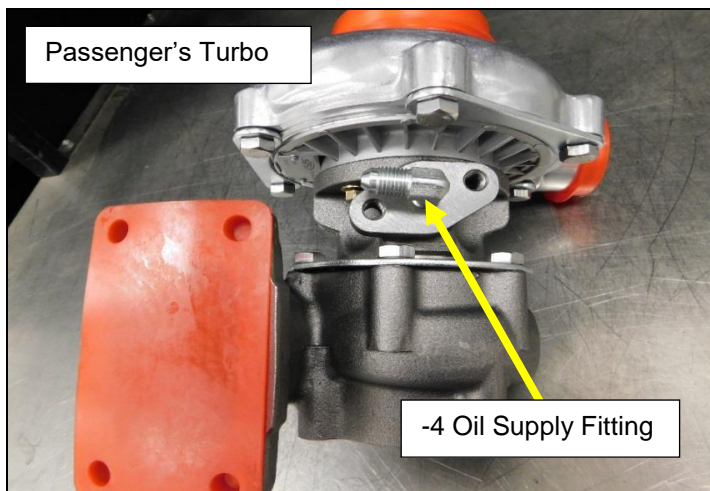
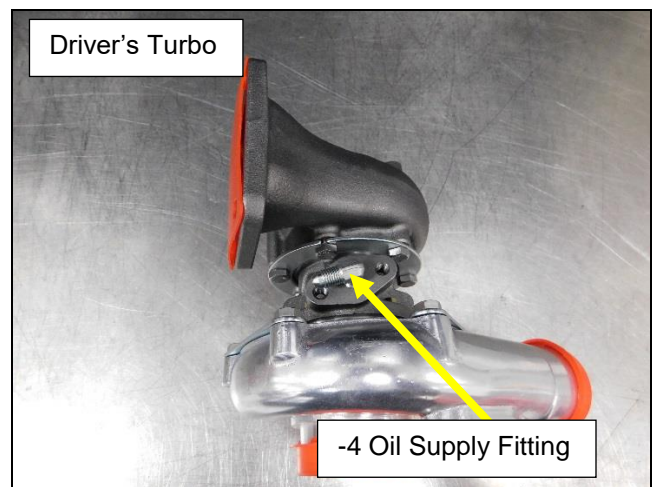

Figure 42
Figure 43
3. Rotate the center section on the passenger's side turbo (**Figure 42**) and driver's side turbo (**Figure 43**).
4. Apply sealing tape to the -4 x 1/8NPT 90° oil supply fitting and install (**Figures 42 & 43**).